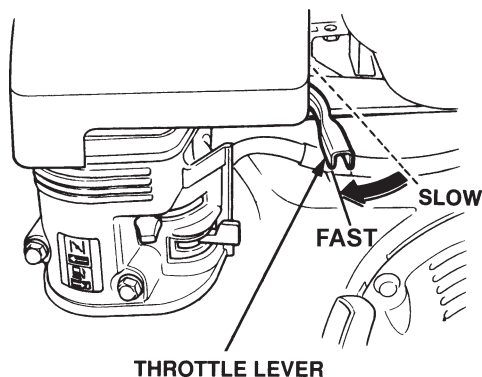

Figure 12. Throttle Lever
3. Move the throttle lever (Figure 12) away from the slow position, about 1/3 of the way toward the fast position.